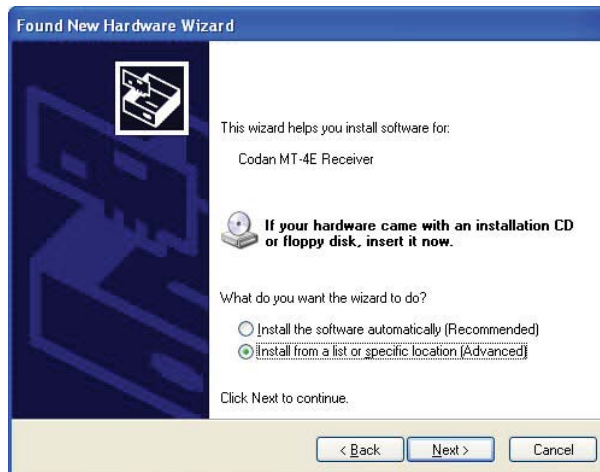

Figure 6: Found New Hardware Wizard 2
6. Select the “Install from a list or specific location (Advanced)”, as shown in Figure 6, and then click “Next” to continue.